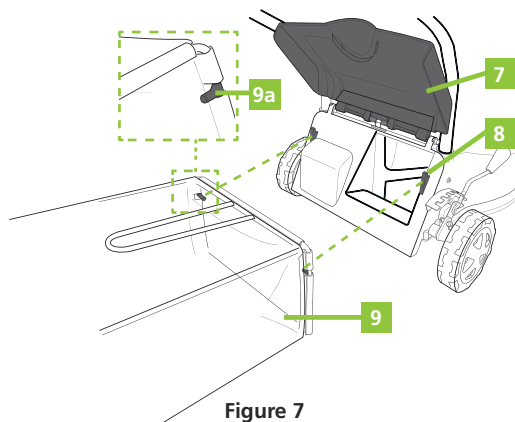

Figure 7
1. Open the protective cover (7) and hold it in this position.
2. Align the brackets (9a) on the frame of the grasshopper (9) with the hooks (8) to hang it (Fig. 7).
3. Release the deflector cover (7).